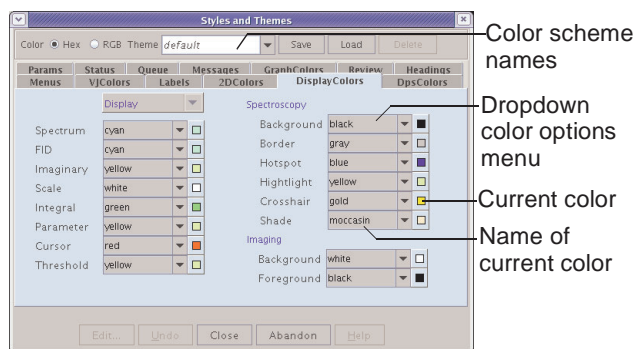

Figure 82. Setting Display Colors
2. Click on the **Display Colors** tab to show the colors of the current color scheme; see Figure 82.
2. Click on the **Display Colors** tab to show the colors of the current color scheme, see Figure 82.